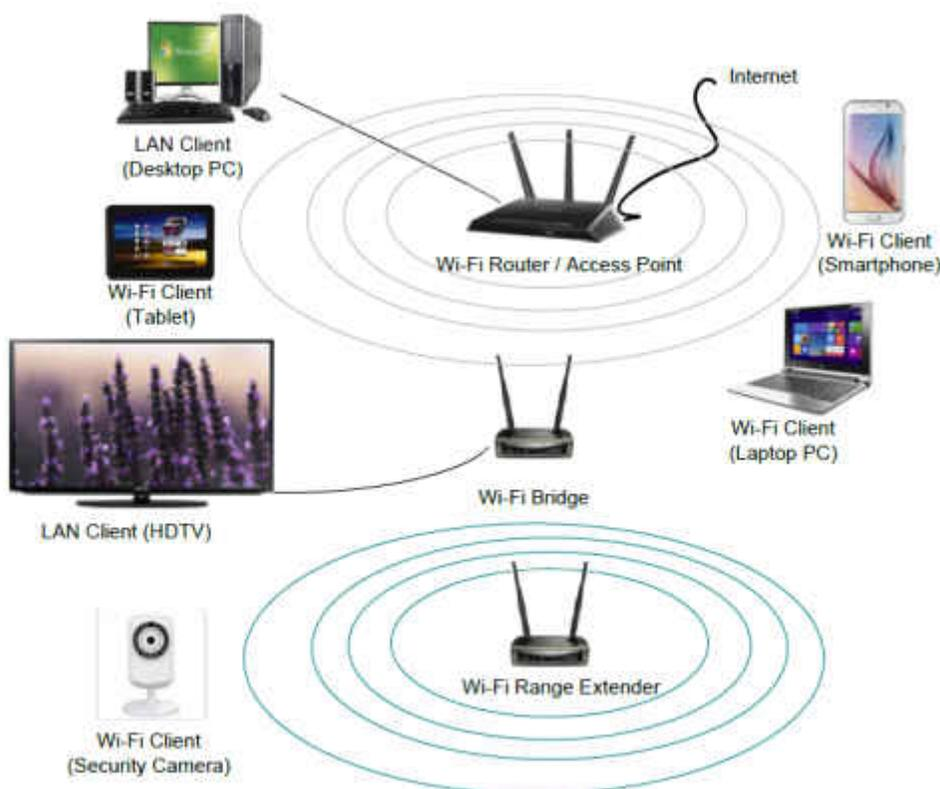

Figure 1. Typical Residential or Small Office Wi-Fi Network
Equipping broadband modems, routers and gateways in home and enterprise networking with wireless access point (AP) functionality is experiencing explosive growth. Figure 1 shows such a Wi-Fi® network. As the market keeps growing, the DC/DC converters used in this kind of equipment must fulfill several requirements.